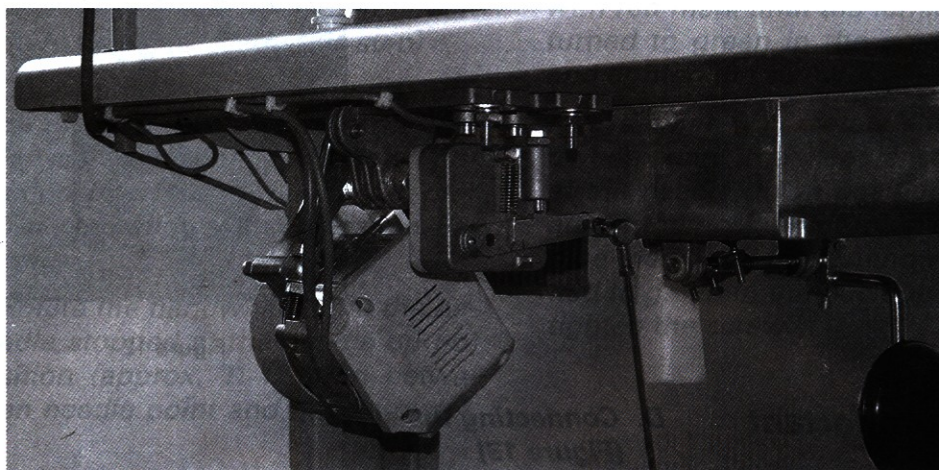

Figure 9
A. Installation of motor assembly (Figure 9)